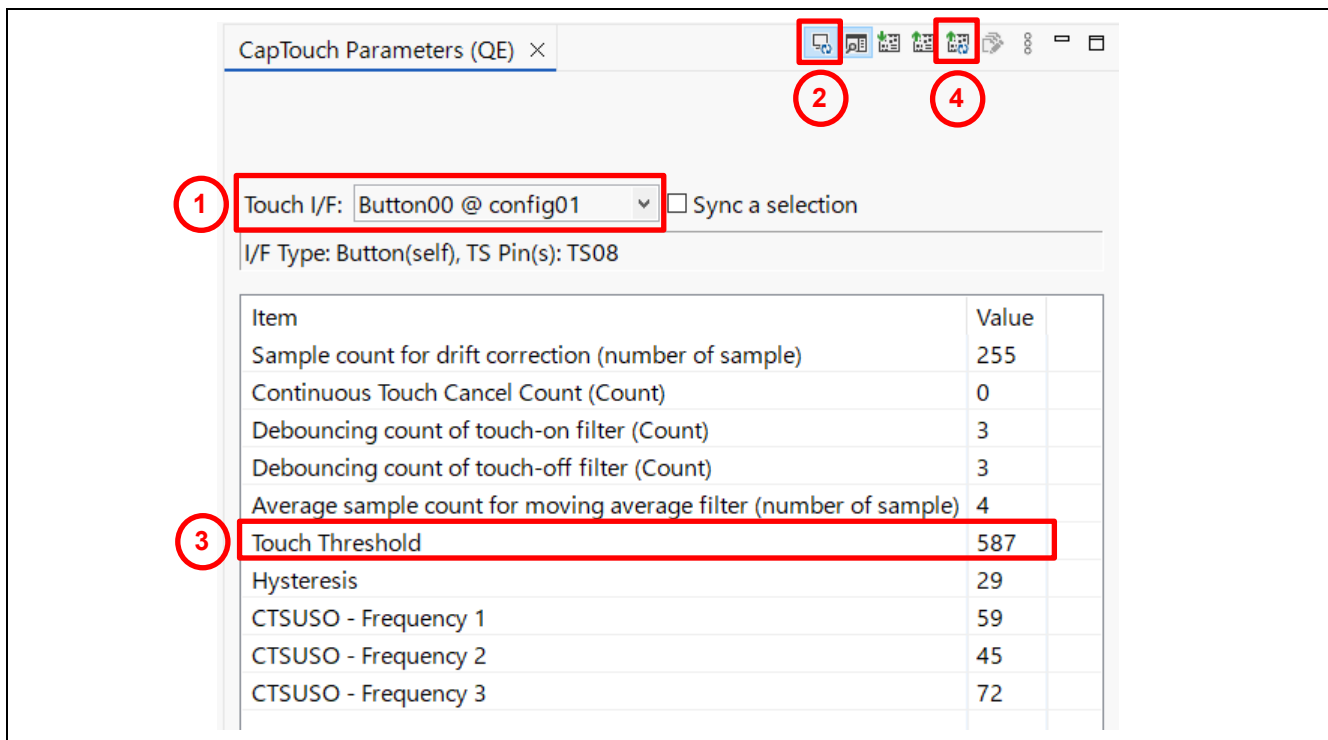

Figure 4-3 Sensitivity adjustment window using the monitoring function
The settings for steps 1 to 4 above are performed in steps ① to ④ in Figure 4-3.